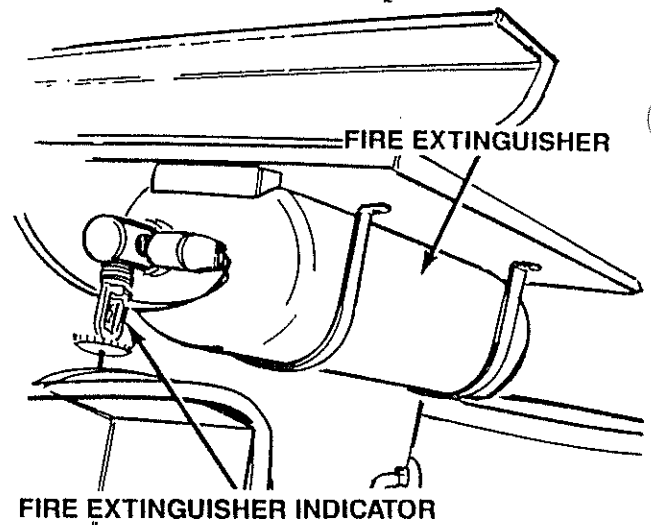

Figure 3-6 Halon Fire Extinguisher
10. See Figure 3-6. Check that the halon fire extinguishers in the front and rear of the engine compartment have not been discharged.